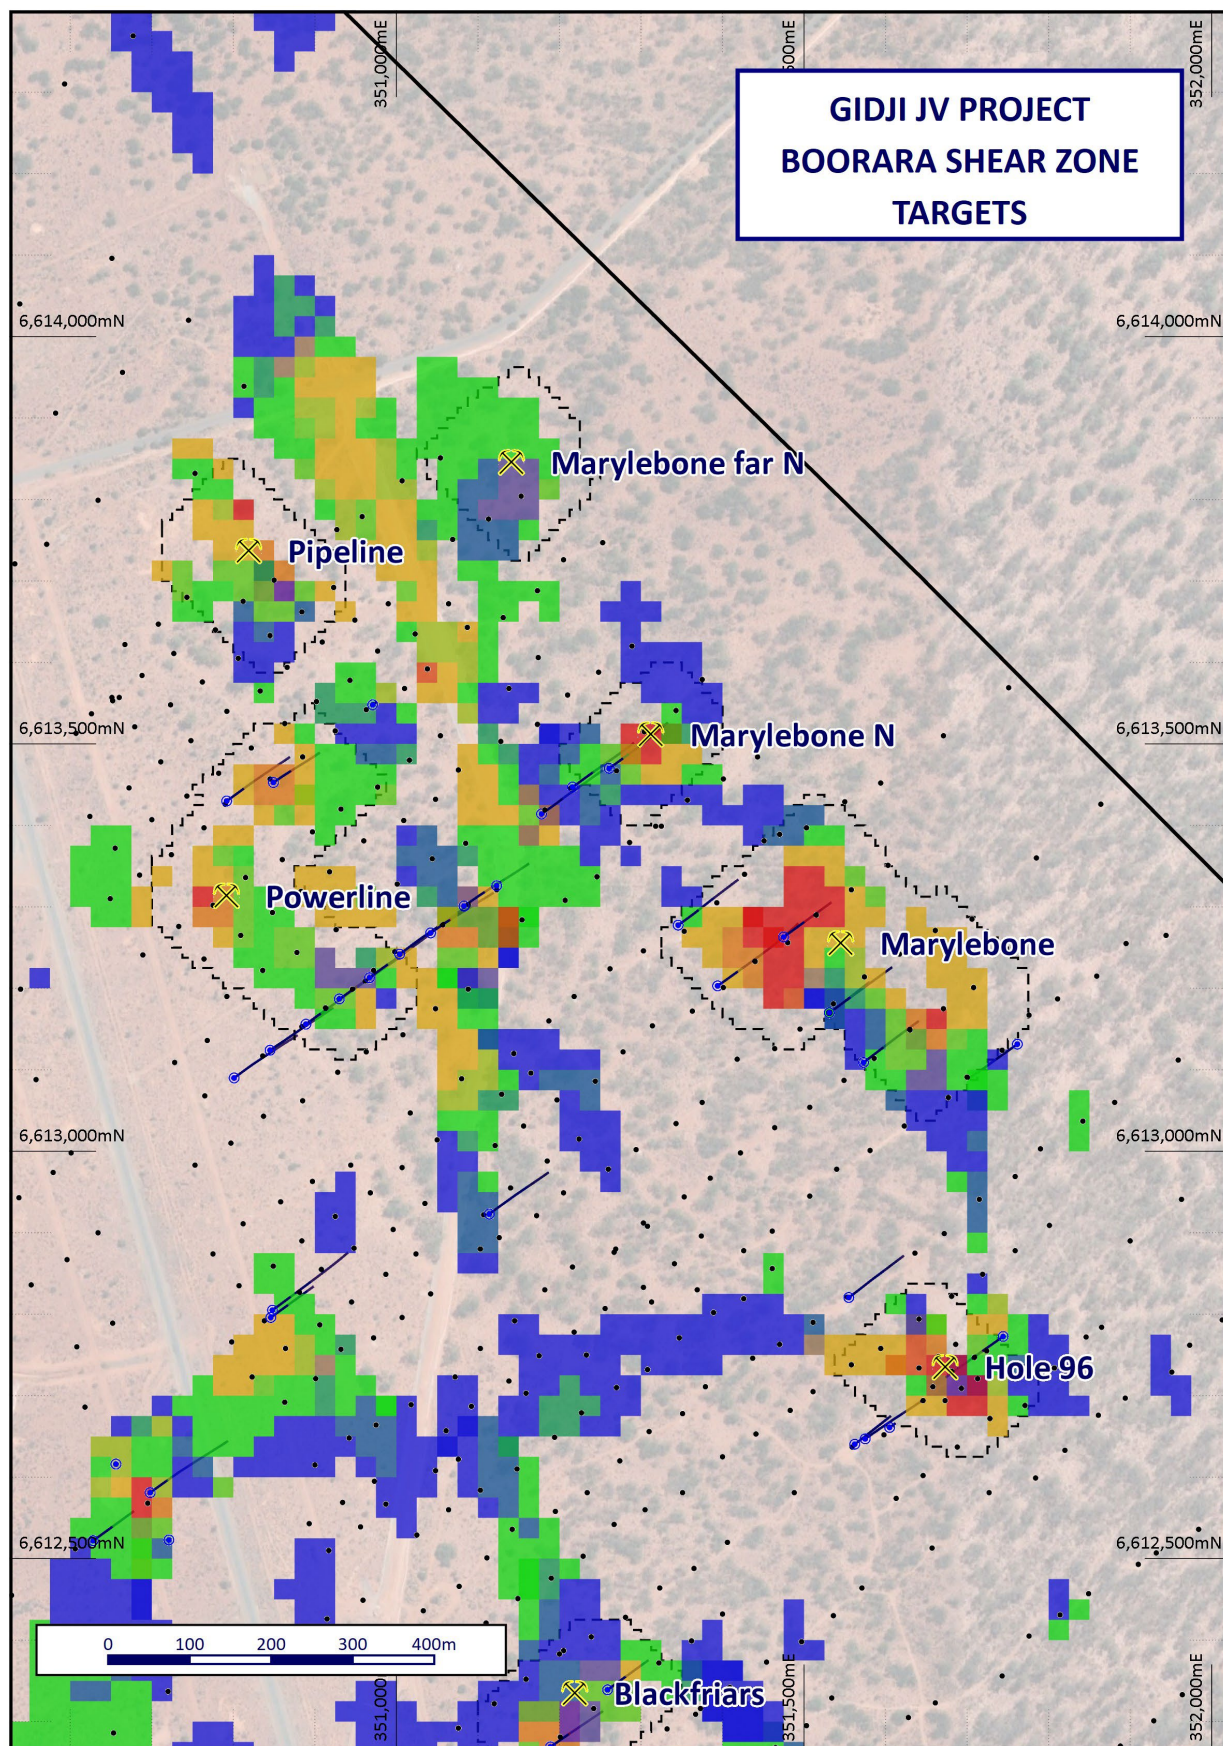

Figure 7. Boorara Shear Zone Targets showing optimised pit shells (black) within the larger block model.
- **Supergene mineralisation outside the paleochannel** – The depth of weathering across the Project varies widely due to the presence of the Gidji Paleochannel. Outside the paleochannel, aircore hole “refusal” depths are generally shallower than the average depth of the supergene gold mineralisation under the channel as shown in Figure 7. Several areas along strike from the known mineralisation remain untested but coincide with significant pathfinder anomalism.